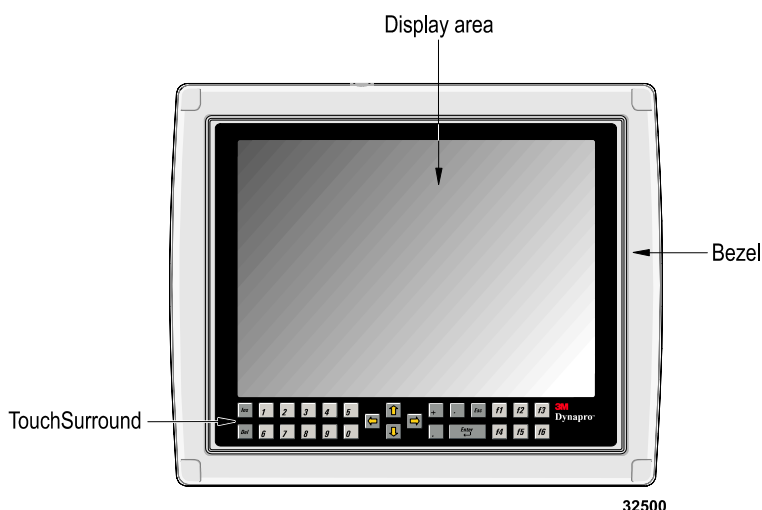

Figure 1: 3M Dynapro ET 350 monitor
*For illustration identifying this item, see Figure 1, page 6
The touch screen consists of the display area and the TouchSurround (Figure 1). Touches in the display area emulate the movements and actions of a mouse, and you can use your finger like a pointer. The TouchSurround can emulate keys on a keyboard.